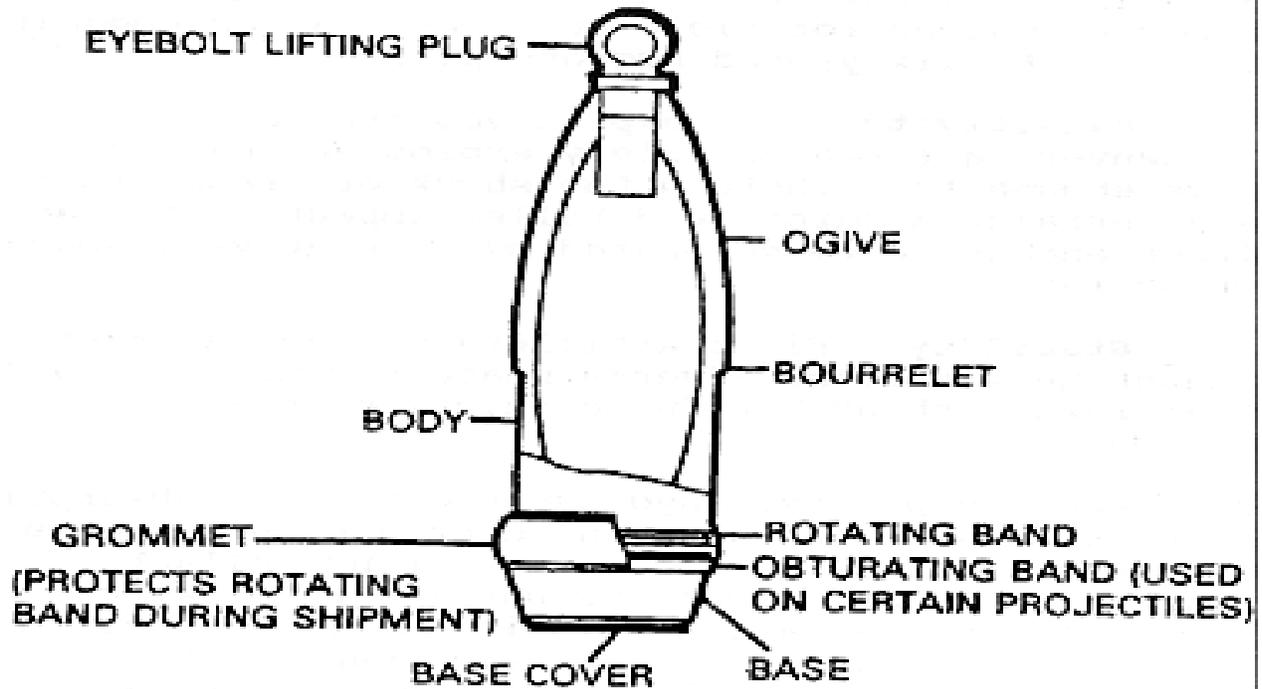

Figure 1-3. Exterior components of projectiles
e. The exterior components of an artillery projectile are shown in Figure 1-3 and explained below.